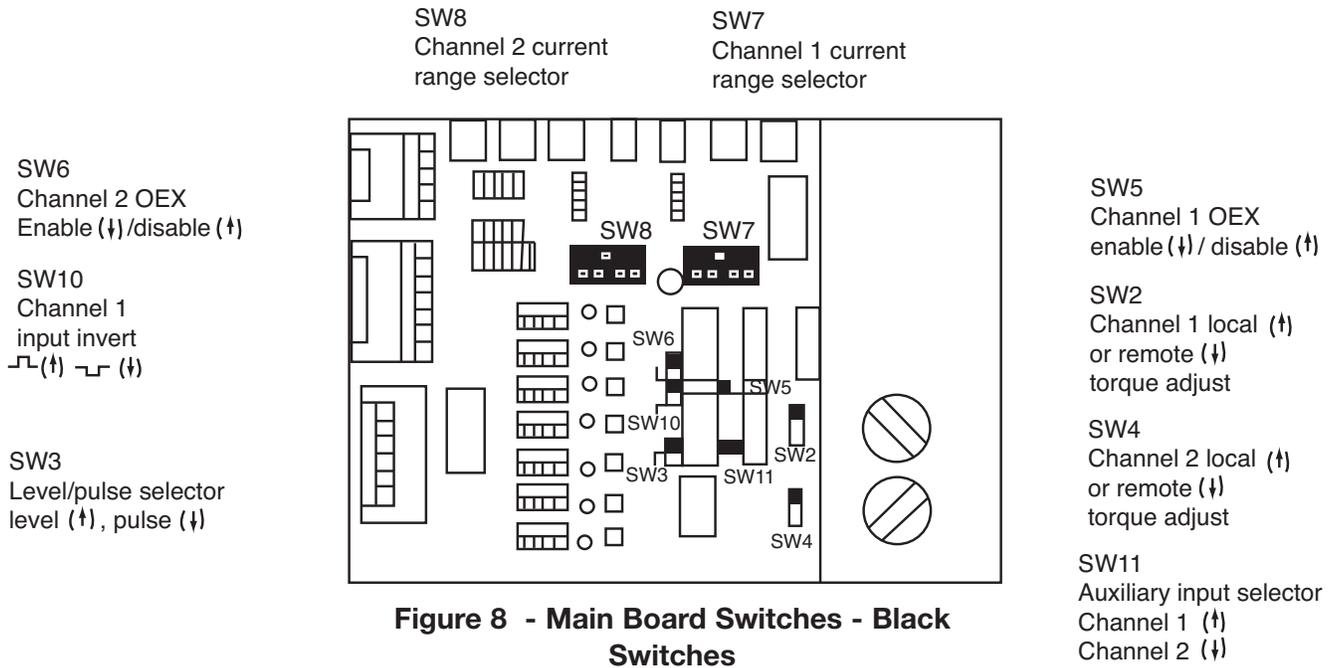

Figure 8 - Main Board Switches - Black Switches
- Refer to dip switch selection charts below and Figure 8, facing page. Set dip switches SW7 and SW8 for the proper range settings based on magnet and field sizes. Switch SW7 sets the current ranges for Channel 1 and switch SW8 sets the range for Channel 2.
- Refer to Figure 8, Page 10. Set the input voltage selector switch SW1 for the AC input being used.
- Refer to Figure 8, Page 10. Set switches SW2 and SW4 in accordance with either of the following: